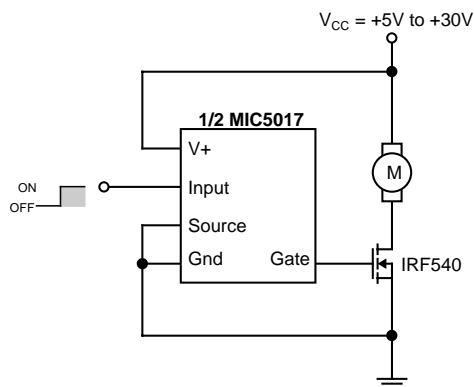

### Figure 5. High Side Driver with Delayed Overcurrent Shutdown
**High Side Driver With Delayed Current Sense** (Figure 5) Delay of the overcurrent detection to accommodate high inrush loads such as incandescent or halogen lamps can be accomplished by adding an LM3905 timer as a one shot to provide an open collector pulldown for the comparator output such that the control input of the MIC5017 stays low for a preset amount of time without interference from the current sense circuitry. Note that an MIC5017 must be used in this application (figure 5), as an inverting control input is necessary. The delay time is set by the RC time constant of the external components on pins 3 and 4 of the timer; in this case, 6ms was chosen.
If overcurrent sense is to be used, first measure the duration of the inrush, then use the topology of Figure 5 with the RC of the timer chosen to accommodate the duration with suitable guardbanding.